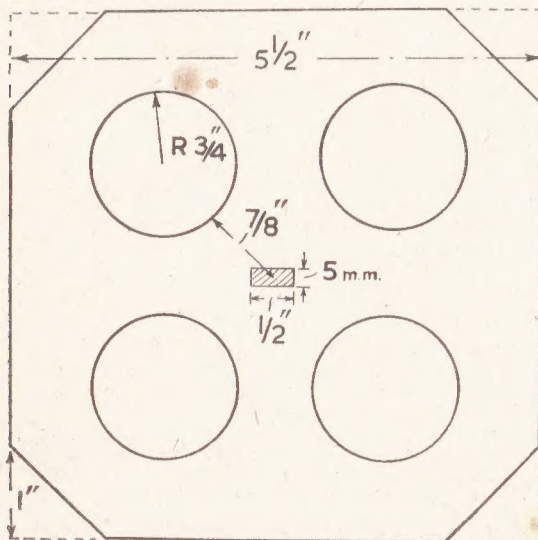

Fig. 1—Plan of the top
First of all cover the square piece with gummed white paper, allow this to dry, and then trim the paper to the edges of the Perspex. Now set out the plan of the top according to Fig. 1. All the shaded areas have to be removed with your fretsaw. The corners are easy. A fretsaw is also used to remove the circular pieces where the eggs fit. Smooth down the inside of each circular cut with a half-round file, and finish off with fine glasspaper.
Cut a baseboard 7ins. by 5ins. from  $\frac{1}{4}$  in. wood, and glue and screw the solenoid into position, as in Fig. 1. Join the wires to the terminals (T) as shown, and hang the tubes so that they are about a  $\frac{1}{4}$  in. from the ends of the plunger. When the chimes are working these tubes will have to be adjusted a
The complete wiring is shown in Fig. 1. (R) is a bell-push and (P) the source of power. This can be either two 4-volt batteries joined in series, or